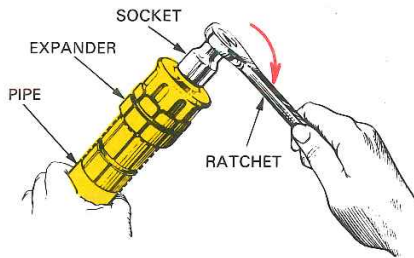
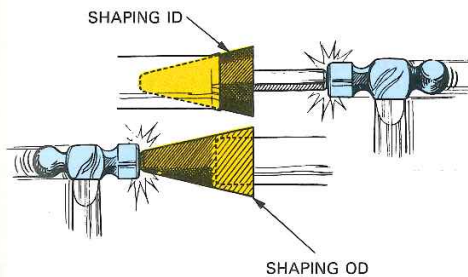

Fig. 25-9. Pipe expander will enlarge ID (inside diameter) of pipes. Then one pipe will fit over another. (Lisle)
Fig. 25-10. Pipe shaper will round dented pipe ends. (Lisle)
6. A pipe expander should be used to enlarge pipe ends as needed, Fig. 25-9. A pipe shaper can be used to straighten dented pipe ends, Fig. 25-10.